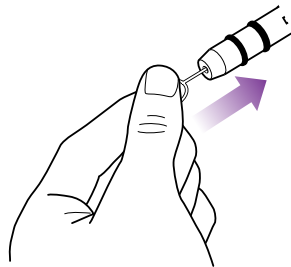

fig.27
- 3 Use the provided nozzle cleaner or a small diameter stiff metal wire, such as a straightened metal paperclip, and carefully insert the end of the wire into the nozzle orifice. See illustration above. (fig. 27)